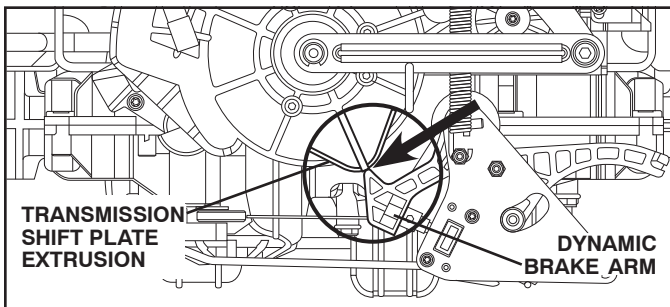

Fig. 34
- Move the shift plate on front of transmission so that the extruded area centerline is in line with the dynamic brake arm. (See Fig. 34)